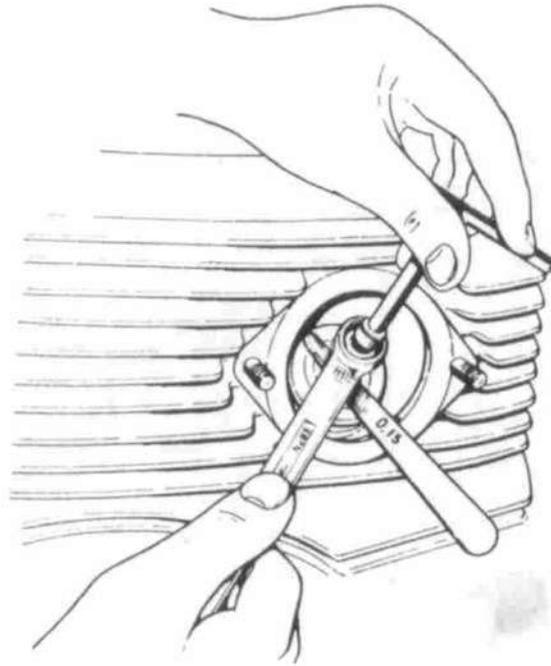

Fig. 27
- 3) Adjust as illustrated in Fig. 27, obtaining a 15/100 mm play for the inlet valve, and a 20/100 mm play for the exhaust valve.